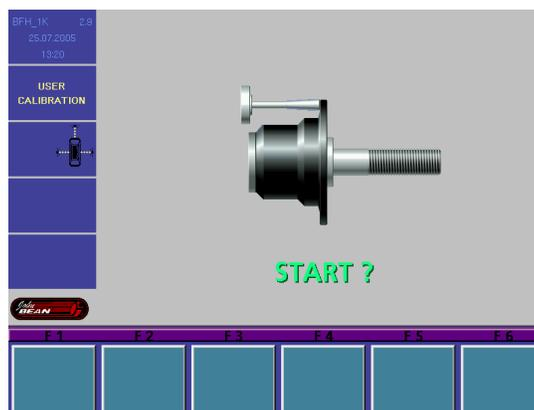

Figure 40
4. After the balancer comes to a stop raise the wheel guard and screw the calibration slug into left side of the flange plate. Lower the wheel guard and press the **“SPIN”** key. The balancer should spin and come to a complete stop. Once the shaft stops the display should display **“OK”** and the speaker sounds the Snap-on **“TüDüLü”**. See Figure 40.